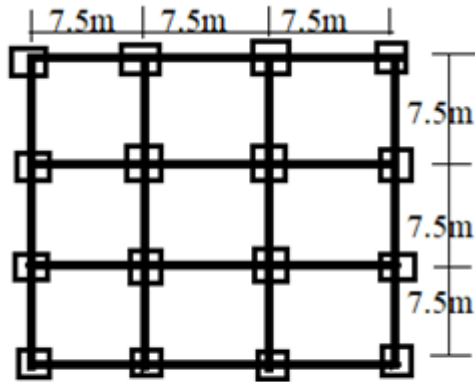

Fig.1 Q3-Plan of Building
- Q3) A four storied square RC framed residential building as shown in Fig.1 with [14]**